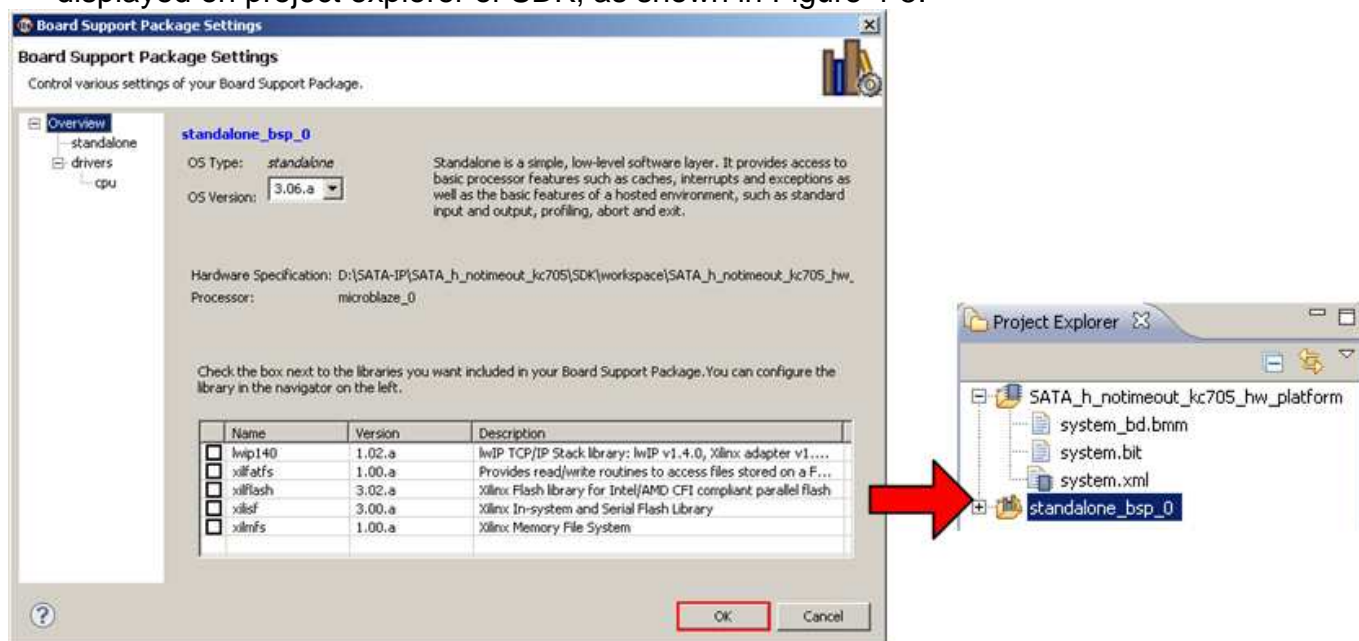

Figure 4-5 BSP Generating complete
- 4) In Library option, click OK after setting complete. After that, bsp folder will be generated and displayed on project explorer of SDK, as shown in Figure 4-5.